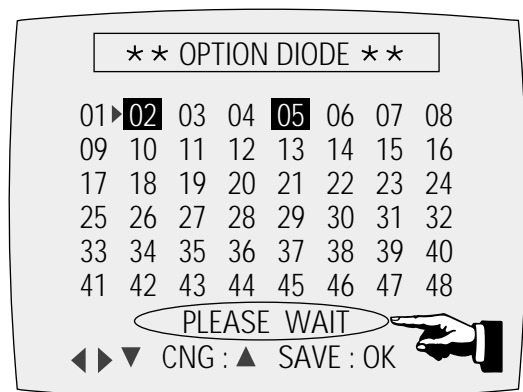

Fig. 2-5
- 5) Press the “OK” button of remote control again to store the option number. (“PLEASE WAIT” is displayed for a second as shown Fig. 2-5 and this setting is completed.)